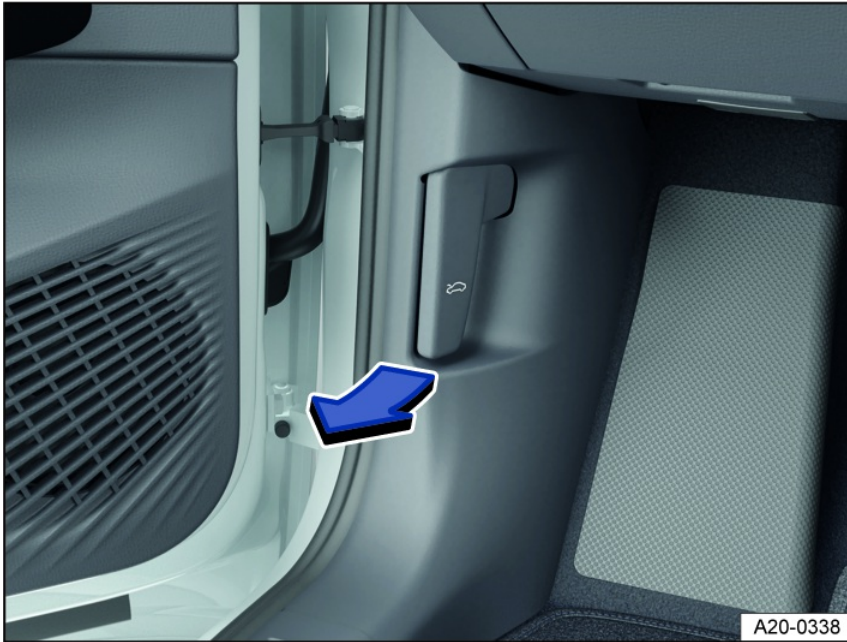

Fig. 156 In the driver's side footwell: Release lever for the hood (general example).
1. Open the driver door and pull the release lever in the direction of the arrow fig. 156. The hood will pop open due to spring force from the catch in the lock carrier ⇒ .